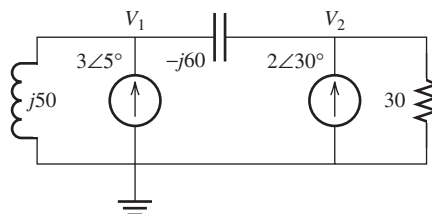

FIGURE P6.35 Circuit for Problem 6.35.
6.35 (A) Find node voltage V_1 and V_2 in Figure P6.35.